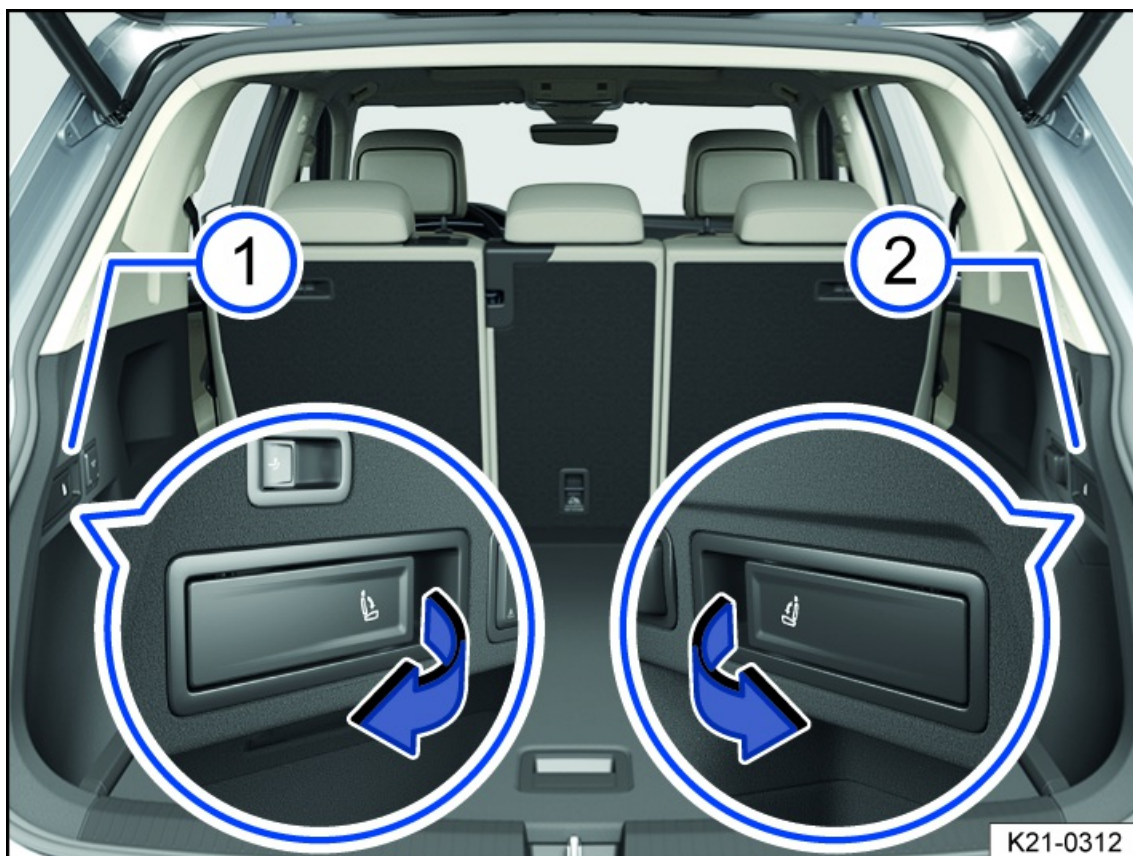

Fig. 60 In the luggage compartment: Remote unlocking lever for the left ① and right ② part of the rear seat backrest.
4. Pull the remote unlocking lever for the left *fig. 60* or right *fig. 60* rear seat backrest in the direction of the arrow.